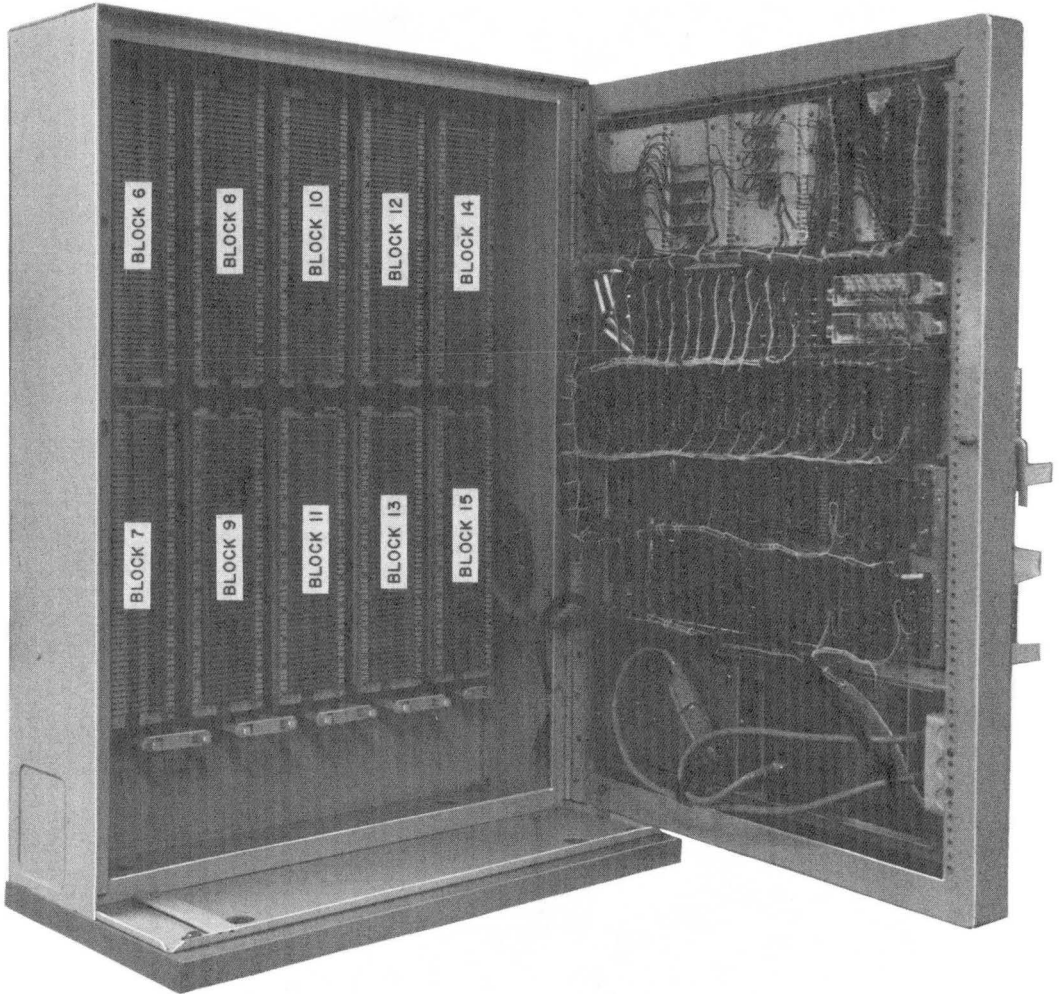

Fig. 2—580-Type KSU (Gate Open)
**2.09** All wiring connections are made on connecting blocks located in the KSU (Fig. 2). As all stations pick up all lines and each line appears on the same button at all telephone sets, all equipment connections are factory-wired to the connecting blocks.